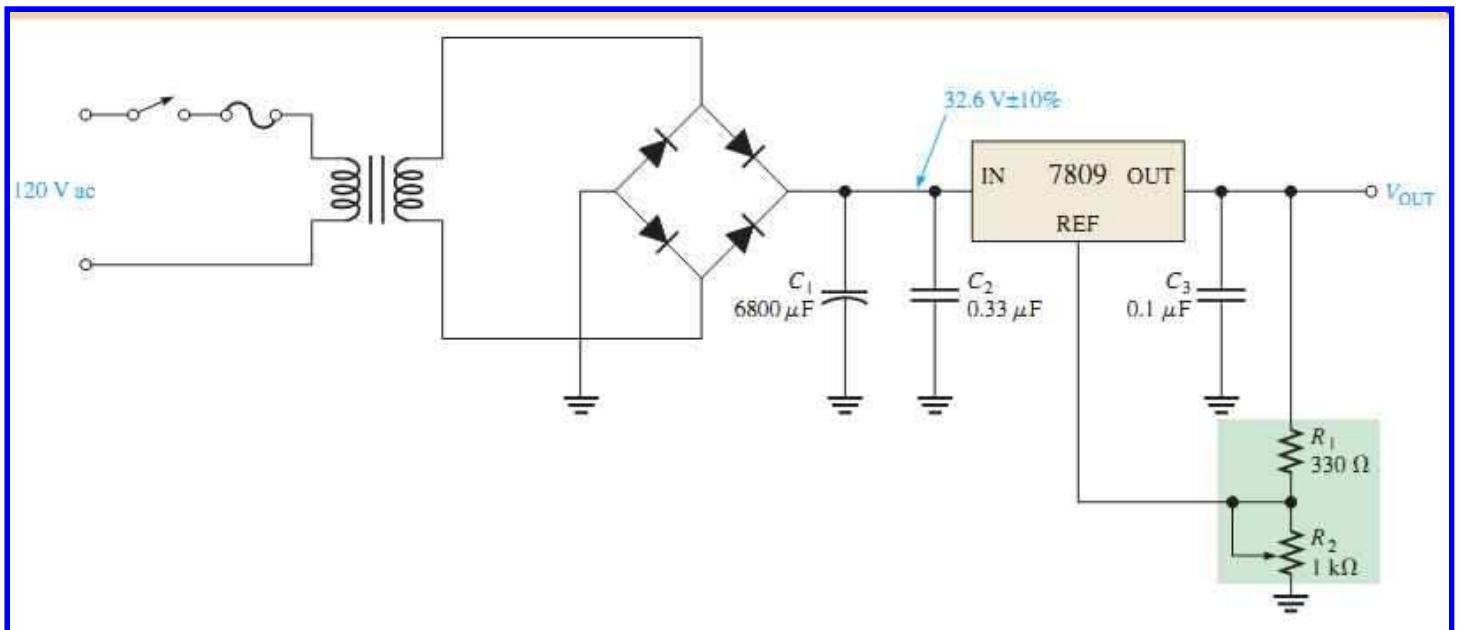

FIG. 40 Variable output power supply.
the manufacturer that a capacitor be connected from the input terminal to ground and a capacitor be connected from the output terminal to ground, as shown in FIG. 40, to prevent high frequency oscillations and improve the performance. The reason for a small-value capacitor in parallel with a large one is that the large filter capacitor has an internal equivalent series resistance, which affects the high frequency response of the system. The effect is cancelled with the small capacitor.
The Fuse The fuse will be in series with the primary winding of the transformer, as shown in FIG. 40. The fuse should be calculated based on the maximum allowable primary current. Recall from your dc/ac circuits course that if the voltage is stepped down, the current is stepped up. From the specifications for the unregulated power supply, the maximum load current is 100 mA.
5. Calculate the primary current and use this value to select a fuse rating for the circuit in FIG. 40.
6. Compare the printed circuit board to the schematic in FIG. 40.